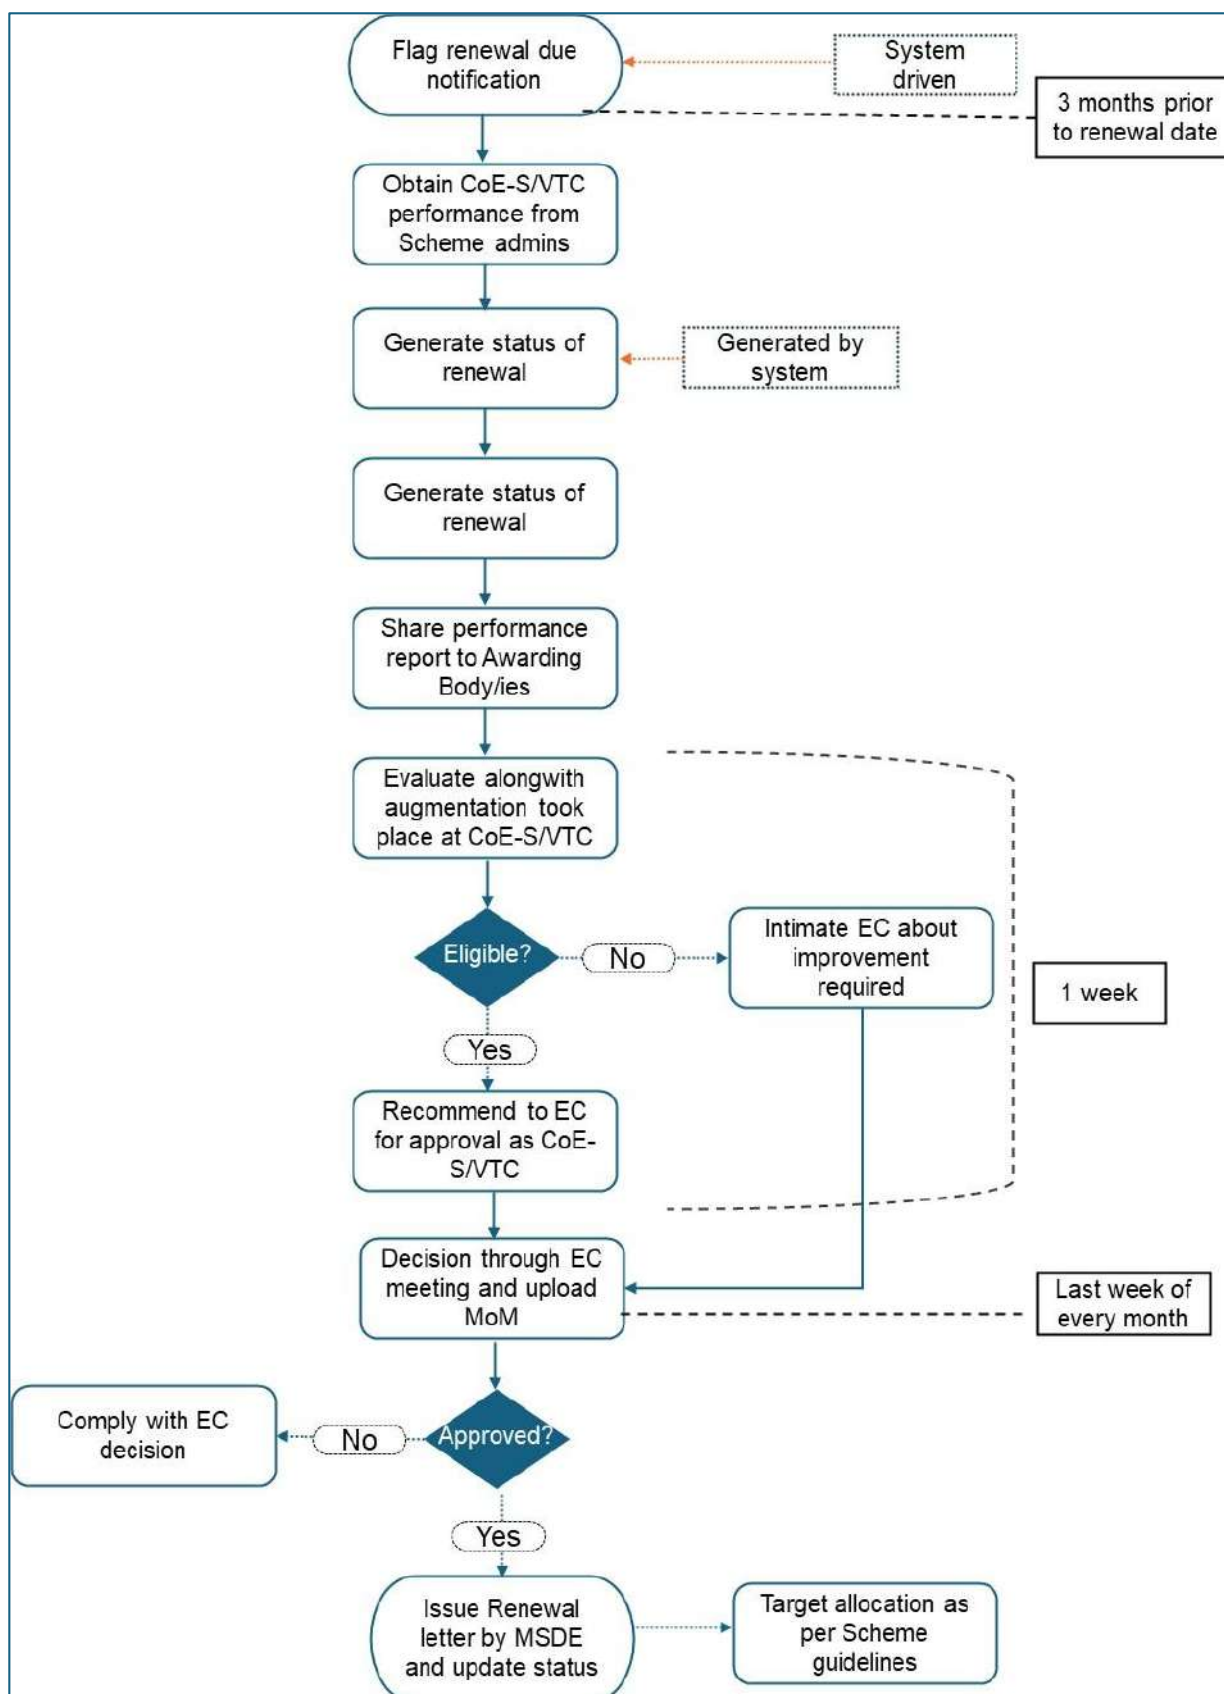

Figure 8: Renewal process
5.6.1 Renewal for empanelment of a CoE-Skills /VTC will be based on achievement of post training outcomes, and monitoring and governance report of MSDE. A CoE-Skills /VTC seeking renewal will submit a renewal application in the prescribed format at least three (03) months prior to the expiry of the existing recognition tenure. Applications not submitted within the stipulated timeline may not be considered for renewal. The Process of Renewal exhibited in Figure 8.